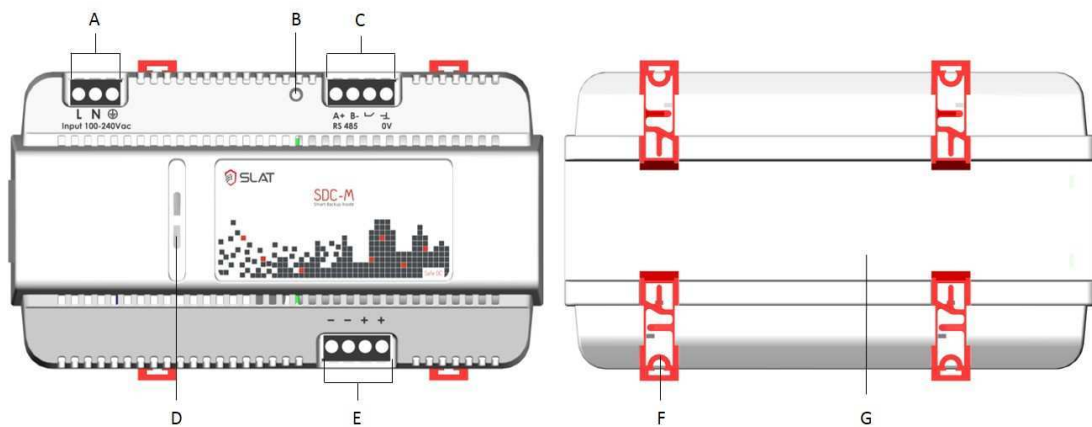

Figure 4.2: Product view
- For prolonged storage or disconnection, press the stop button back-up function. (see on Figure 4.2 in chapter 4.4: Disconnect backup push-button)